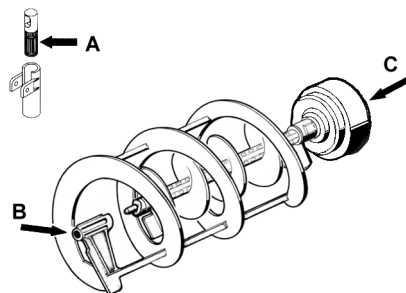

figure 11
- 2 Lubricate faucet piston, inside auger and outer spiral (see points A, B and C of figure 11) only with the grease supplied by the manufacturer or other **food grade approved** lubricant.